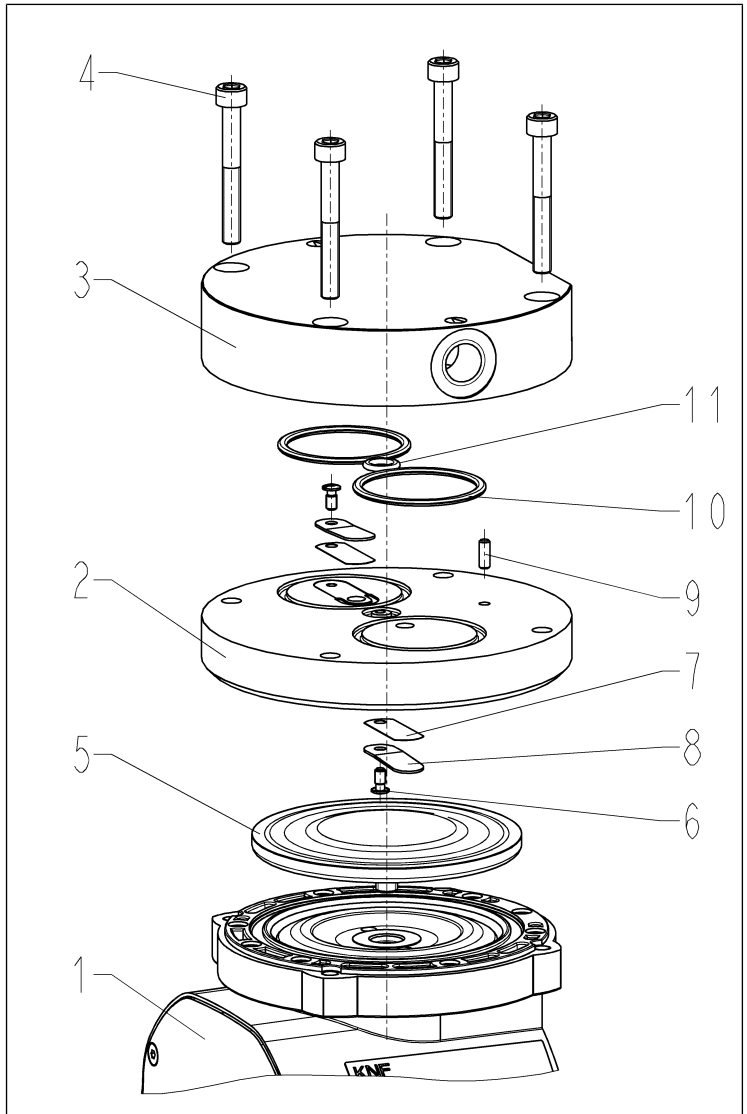

Fig.7: Pump parts
\*\*According to Fig. 7
- i** The item numbers within the following work instruction refer to Fig. 7.